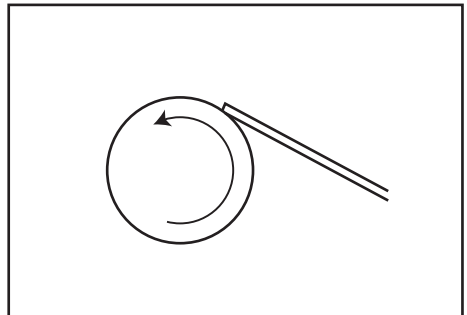

FIG.16
9.4 TIG WELDER, TUNGSTEN ELECTRODES - SELECTION & PREPARATION - FIGS. 16 - 18